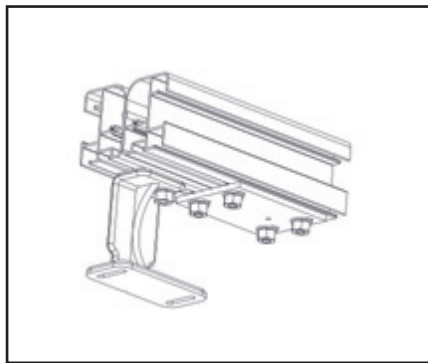

Fig. 14
- Note : the width of the roller box is always 40 mm more than the over-all width of the blind. (see figure 14 page 9)
- Check the attachment points (item 3.4).
see fig. 14 page 9